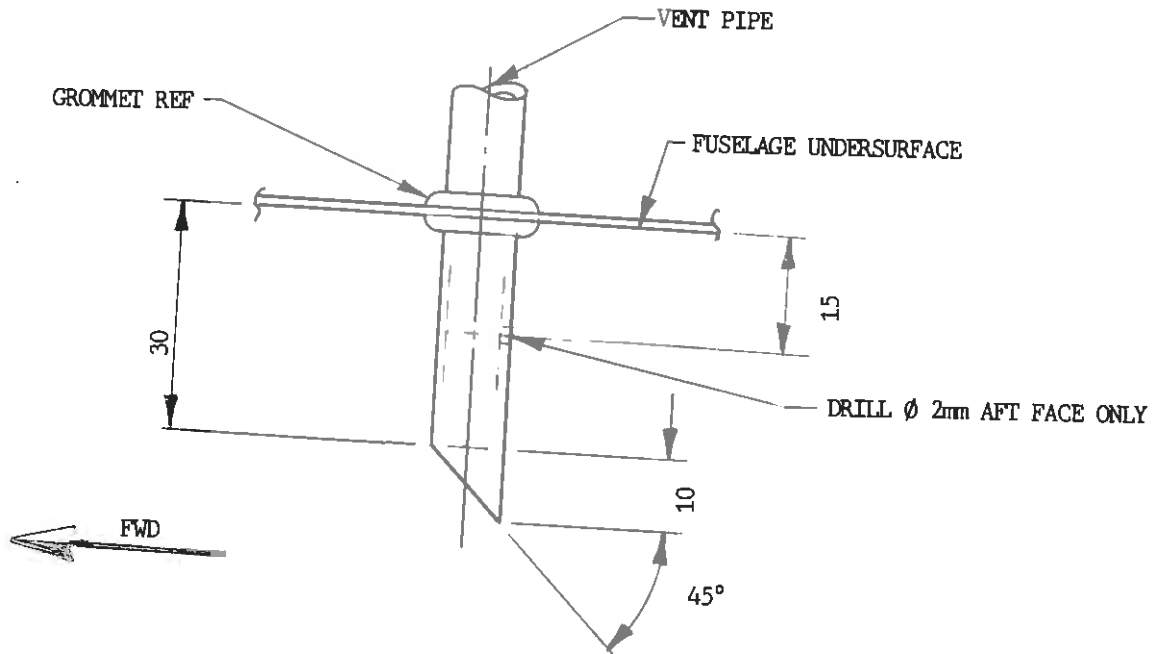

FIG 1
2. During inspection or during course of replacement, re-fit vent tubes with opening facing forward. Drill 2mm hole in aft face. Ref Fig. 1.